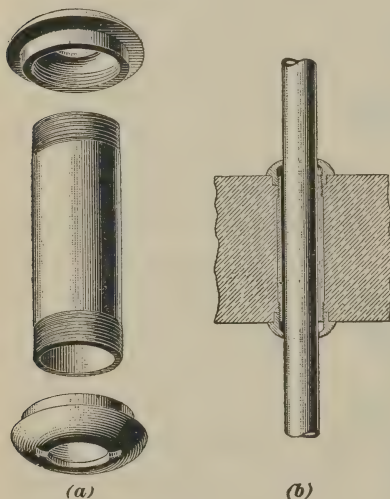

FIG. 61
**88.** Fig. 61 shows a good screw floor plate, known as the **Hall thimble**. The three loose parts are shown in Fig. 61 (*a*), while Fig. 61 (*b*) shows the thimble in position around a steam pipe passing through a fireproof floor. The plates shown in Figs. 60 and 61 must be put in place, or at least slipped over the pipes, before the pipes are screwed up.